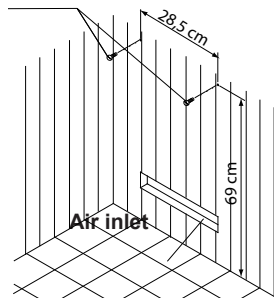

Fig. 3
1. Tighten the 2 sheet metal screws to the cabin wall according to the measurements in fig.3 and keep a 3 mms gap between screw head and wall.
4. Fit in the sauna heater to the screws with the suspension slits on the rear side (fig.3)